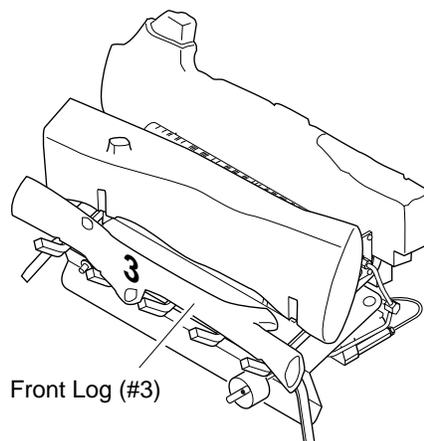

**Figure 36 - Installing Rear Log**
1. Slide rear log (#1) into place behind rear burner. Make sure flat areas at bottom of log are behind rear burner (see Figure 36).